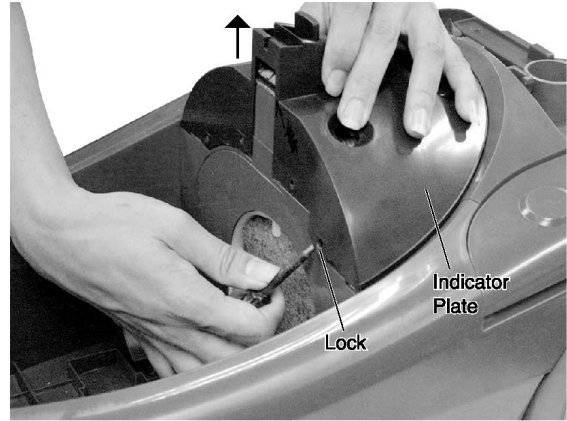

Fig.4
4. Remove the Indicator plate unit by using (-)minus screwdriver to unlock. (Fig.4)